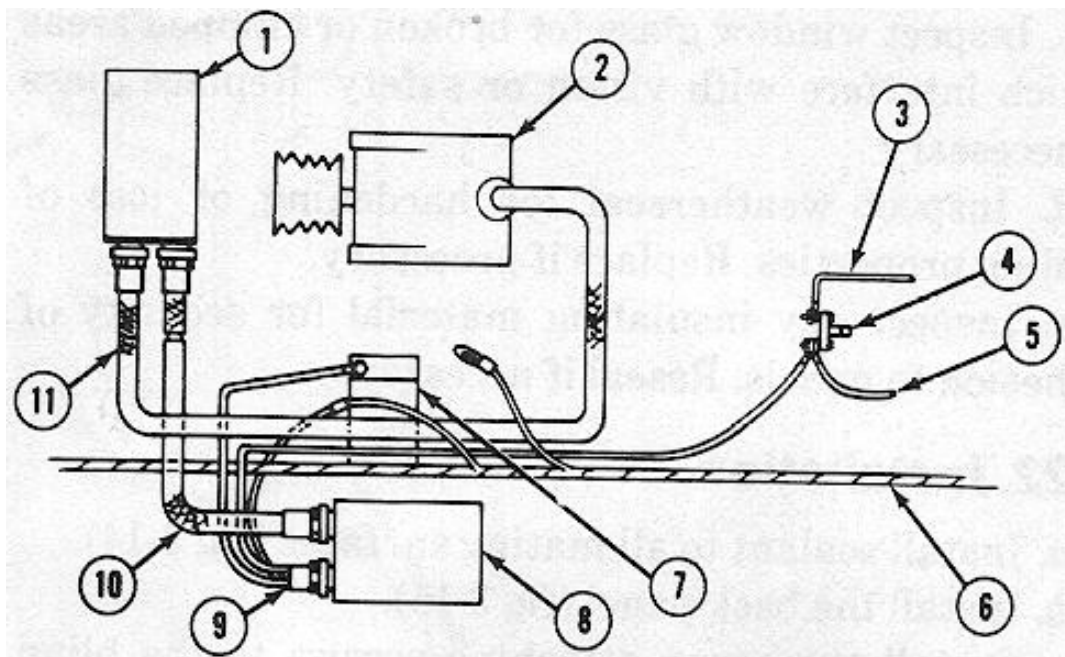

Figure 3-12. 100-ampere wiring kit connections.
- (5) Position the longest cable (positive battery) parallel to the existing alternator cable and attach the cable terminal to the positive (hot) post of the engine starter switch (battery lead cable connecting post). Clip cable to main wiring harness.
- (6) Connect alternator lead to the connector of the short lead of the cable assembly.
- (7) Connect ground cable to battery negative post. For correct wiring connections refer to figure 3-12.
(8) Secure the lighting harness to the underside of the radiator baffle in the area of the baffle-cut-out. Use the 10-inch long perforated strap and fastener in the kit. Wrap around baffle and harness.